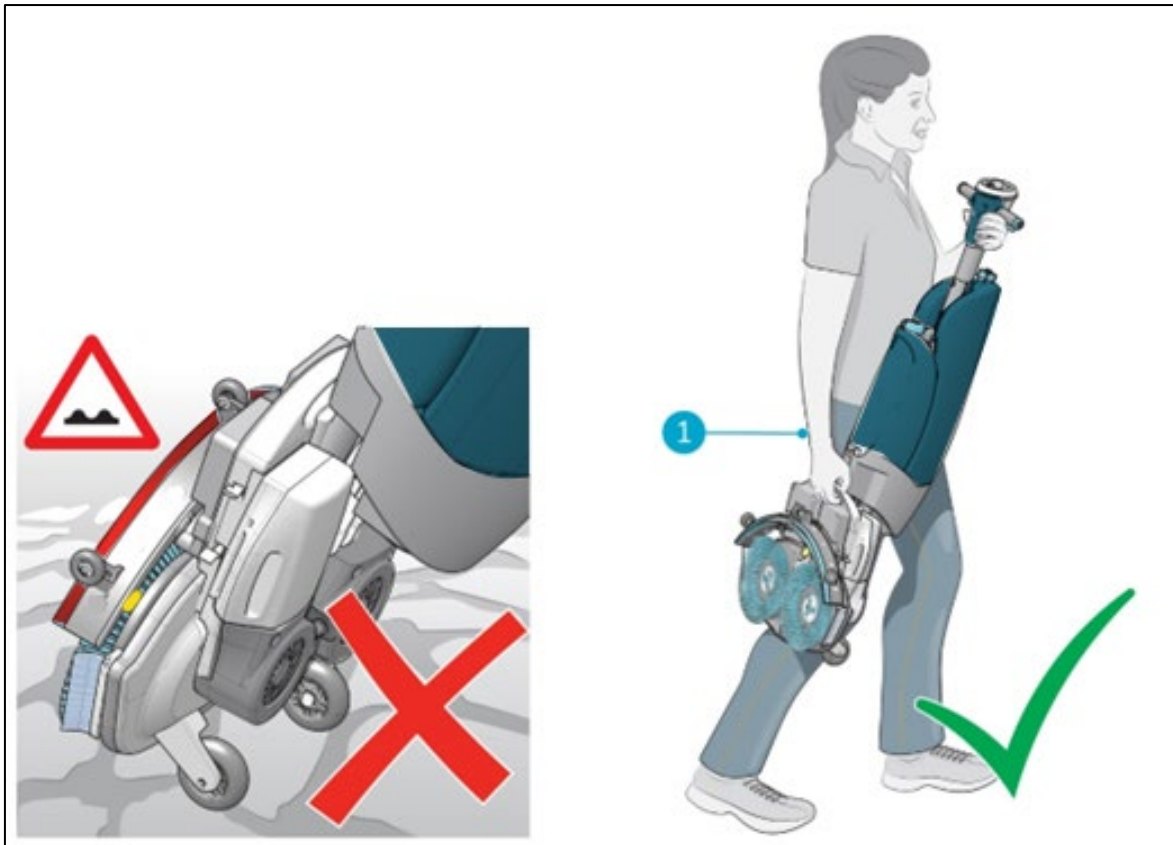

Figure 7
2. Carry the i-mop® XL with one hand while holding the handle (Figure 7, pos 1) with your other hand.